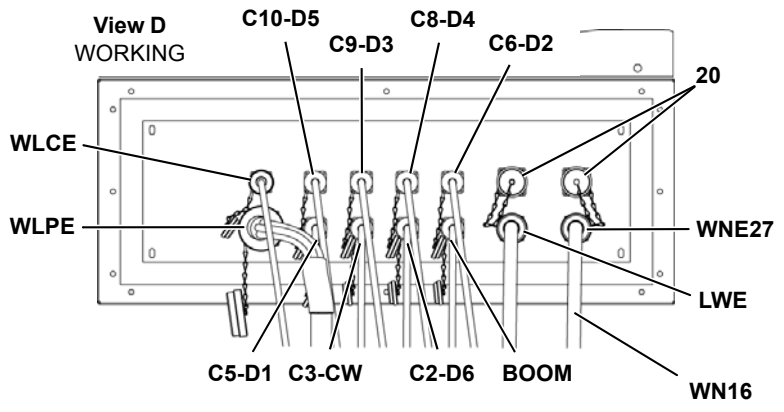

FIGURE 4-71
- Route and connect the hydraulic hoses between the power plant enclosure, the drums, and the rotating bed as shown in Figure 4-71, Views A and B.
- Route and connect the electric cables between the power plant enclosure, the rotating bed, and the front roller carrier as shown in Figure 4-71, View D.